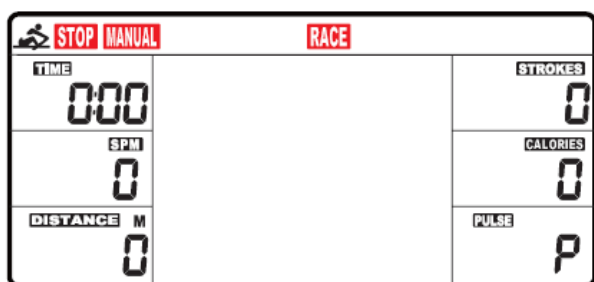

Fig. 3
2. The CLOCK will flash. Press UP / DOWN to set the hour. Press ENTER to confirm. Press UP / DOWN to set the minutes. Press ENTER to confirm. Continue to set up YEAR (in the STROKES window); MONTH (in the CALORIES window); DAY (in the PULSE window) by pressing UP or DOWN. Each time, press ENTER to confirm. After you confirm all values, ALARM will blink. To skip setting up an alarm, press ENTER. To set up an alarm, press the UP KEY to turn on ALARM. An arrow will appear next to ALARM. Press ENTER. CLOCK window will flash. Press UP or DOWN to set the alarm time. Press ENTER to confirm. Computer will then go into the SPORT screen (Fig.3).